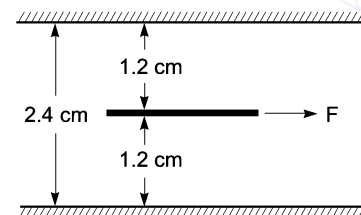

Fig. 1.7 (a)
**Case I.** When the thin plate is in the middle of the two plane surfaces [Refer to Fig. 1.7 (a)]